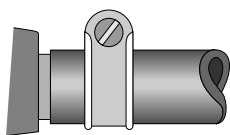

fig. 5
**CHECK** that tubing is completely over the nozzles at each end of the tubing and that it is held firmly in place by tube clips (See fig.5). Check the expiry date and state of the rubber tube regularly. If it is past its expiry date or has been damaged, replace it with one which complies with the current regulations. When connecting the pressure regulator to the gas bottle avoid undue twisting of the flexible tubing.